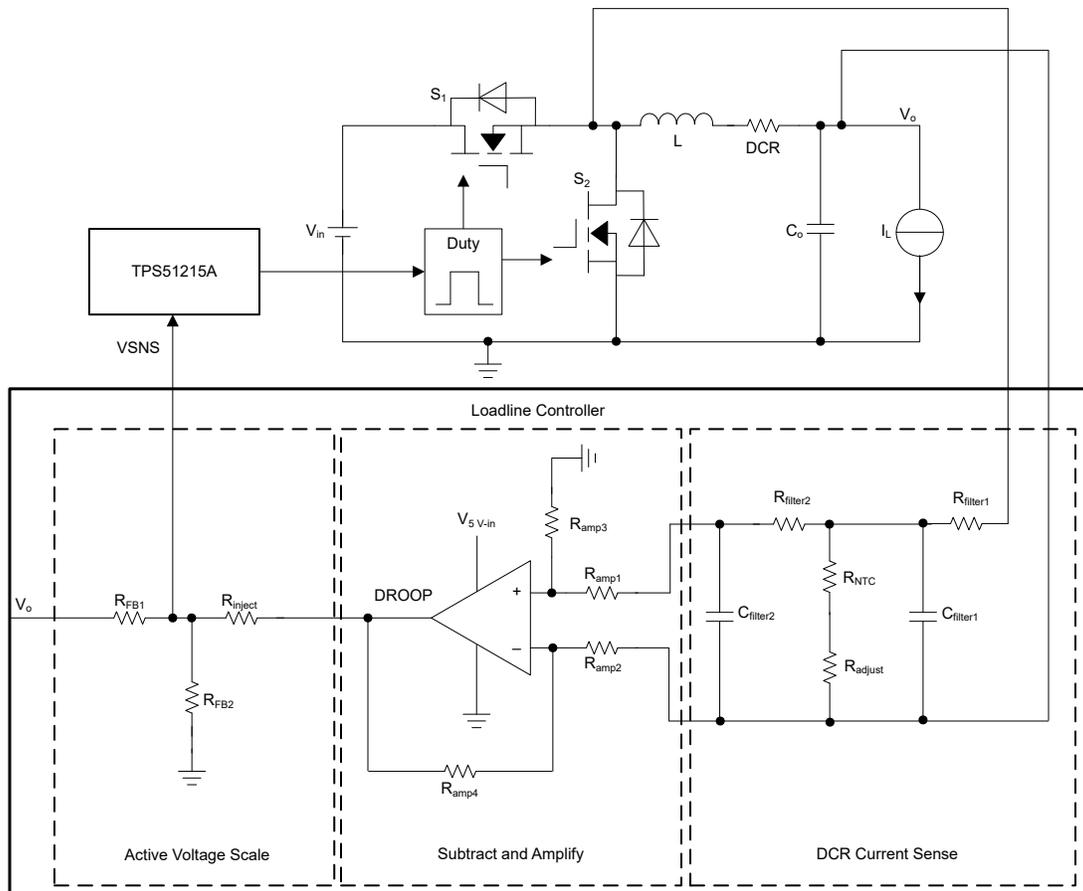

Figure 2-1. TPS51215A Power Solution with Load Line Feature Block Diagram
The basic block diagram of TPS51215A power solution with load line and IMON features is shown as Figure 2-1.
- The first type of IMON output is inductor DCR current sensing signal. For this type of IMON, the IMVP VR controller has two pins for differential IMON input. The solution proposed in this reference design is compatible with this type of IMVP VR controller. The differential voltage signals on C_{filter1} in Figure 2-1 are the IMON output and could be directly connected with VR controller.